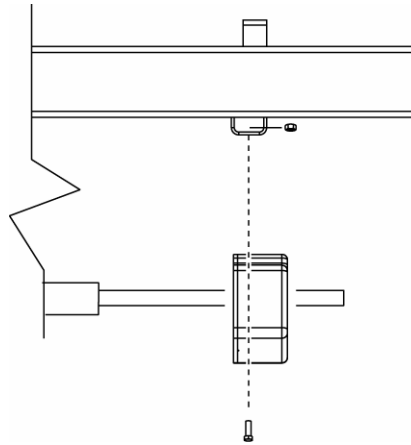

Figure 8
- A. Using a 1/4" drive ratchet and 5/16" socket, connect two #10-18 X 1/2 self-tapping screws through the holes in the overhead switch assembly into the overhead beam as shown in figure 8.